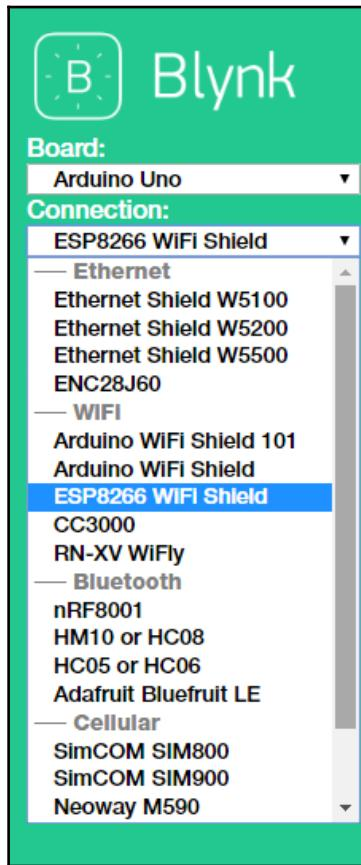

Figure 2.30: Selecting the connection type
3. Choose **ESP8266 WiFi Shield** from the **Connection** drop-down list if not already selected (*Figure 2.30*):